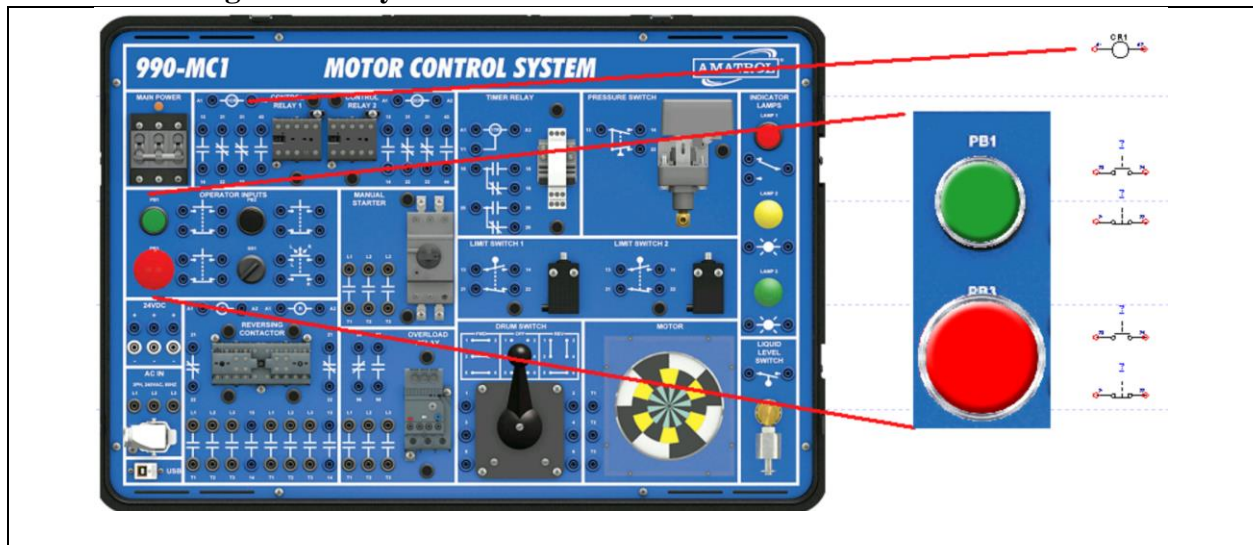

Figure 3. Simulating the Pushbuttons on the Motor Control training unit.
1. Figure 3 shows the Motor Control training unit and the devices that will be simulated: